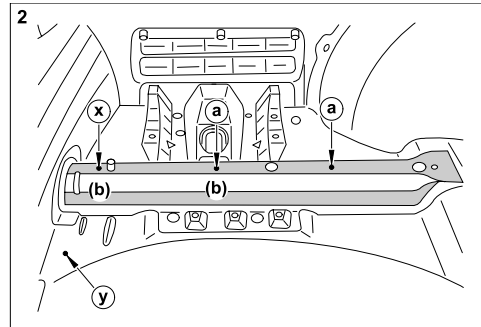

Fig. 2 : Holes in luggage compartment, left
- 5.) Drill a diameter 36 mm  $\varnothing$  hole ( " y " ) at the centre punch mark in the luggage compartment floor between the left frame side member and spare wheel through for the cable leadthrough; see Fig. 2.